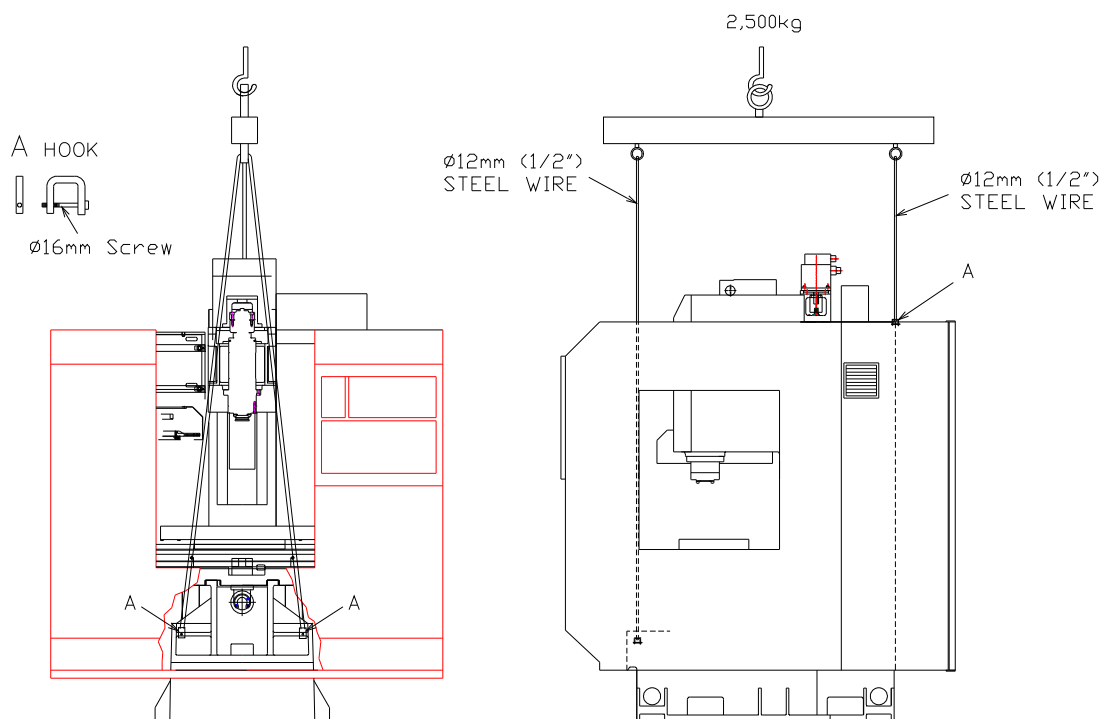

FIG 3.1.1 HANGING THE MACHINE
- D. BEFORE HANGING THE MACHINE, TAKE OFF THE UPPER COVER OF COLUMN AS SHOWN IN FIG. 3.1.1 TO PREVENT FROM DAMAGE OF THE MACHINE.